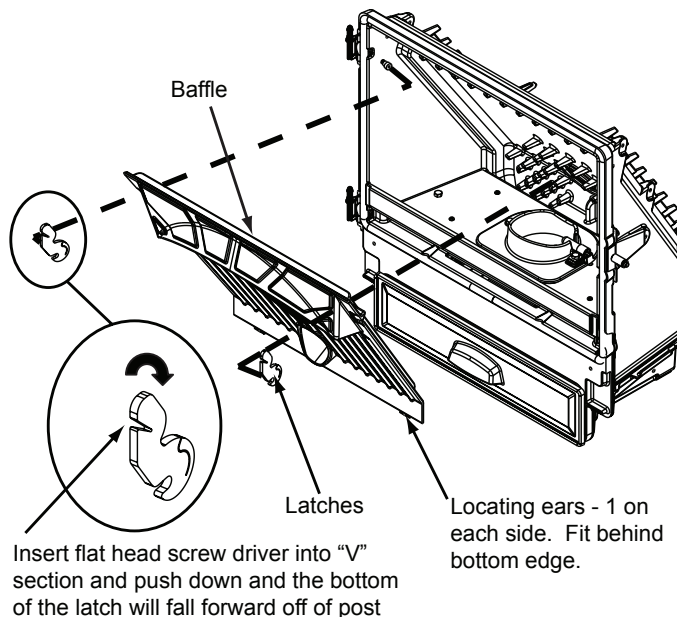

Figure 32.2
4. Remove baffle by placing a flat head screw driver into the slot of the latches located in the upper corners and push down. The bottom of the latch will fall forward off of the post. Lift the baffle up and then out toward you (**Figure 32.2**).